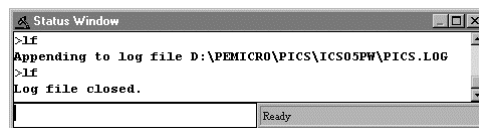

Figure 6-10. Results of Entering the LF Command in the Status Window
- Choose the *Start Logfile* option from the ICS05JW File menu, or enter the LF command in the Status Window command line (Figure 6-10).